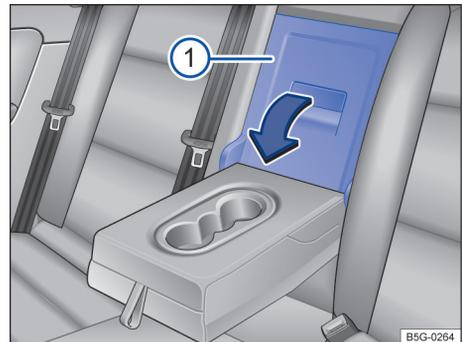

Fig. 147 In the rear seat backrest: Opening the luggage compartment pass-through.
- Pull the release lever in the direction of the arrow → fig. 147 ① and fold the pass-through cover all the way forward.